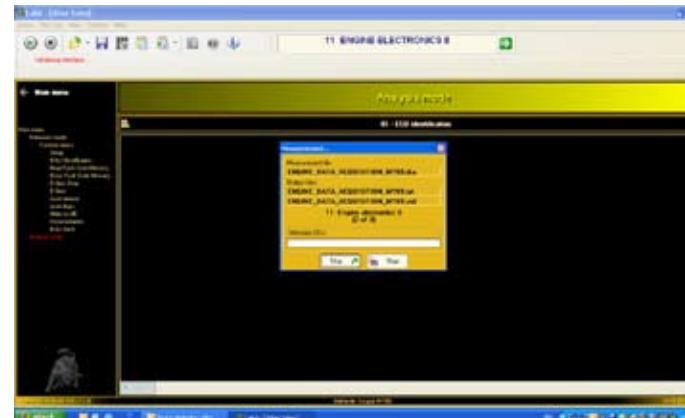

Fig.91
- 11 Engine electronics II (Fig.91)